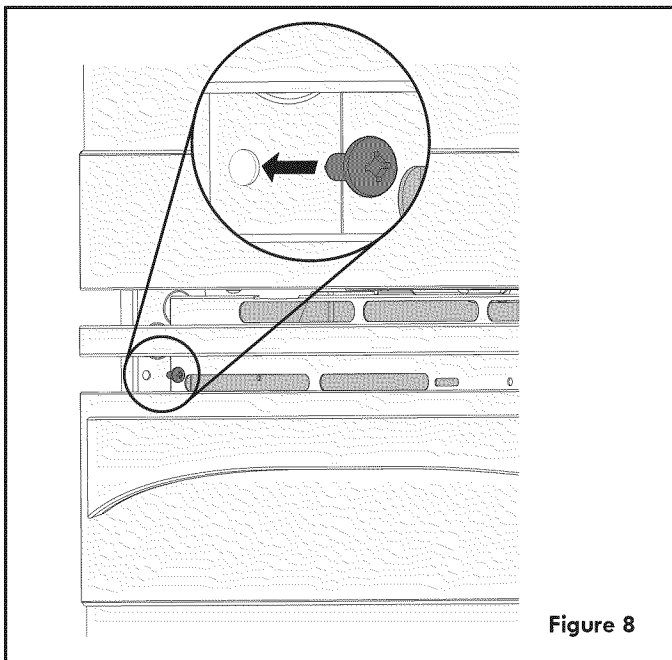

Figure 8
A. The mounting holes in the side trims may be used as a template to locate the appliance mounting screw holes (see figure 8).